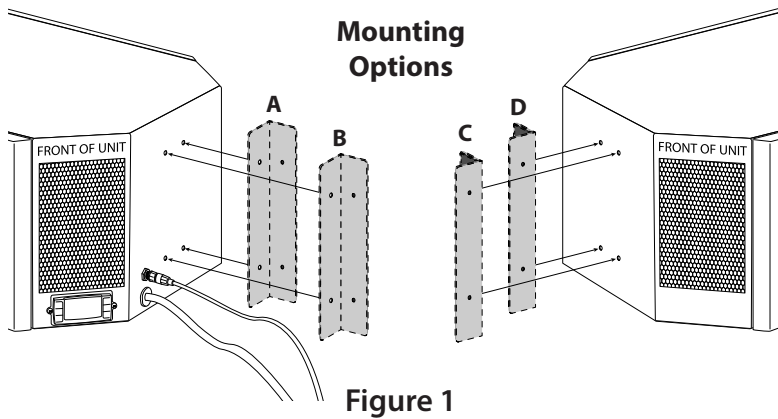
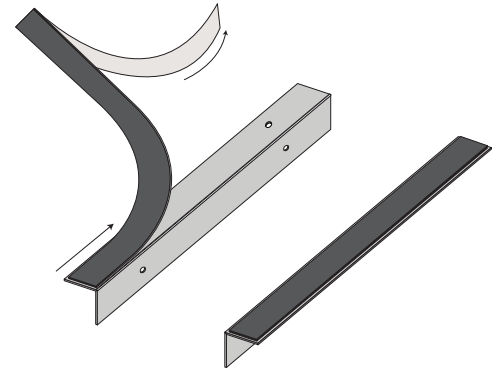

Figure 1
Figure 2
If the desired option is (A) or (B) displayed in Figure 1, the foam tape should be placed as shown in Figure 2.
If the desired option is (C) or (D) displayed in Figure 1, the foam tape should be placed as shown in Figure 3.
3. Place bottle probe securely into bottle as seen in Figure 1.
5. To ensure a consistent temperature, place bottle probe approximately three (3) feet away from the air output and not in the flow of the air.